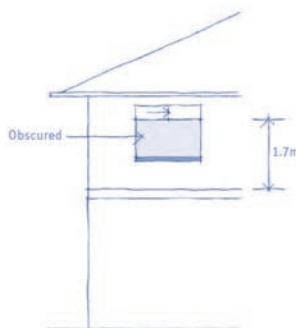

Figure 7B
- Fixed opaque glass to a height of 1.7 metres above the upper floor level with clear openable glass above. Refer to Figure 7B;